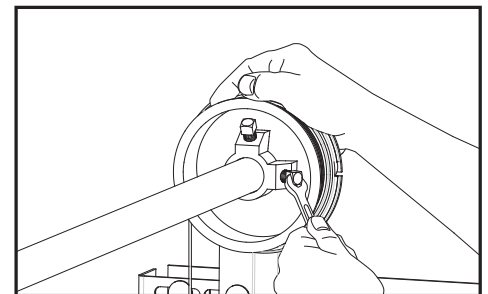

Fig. 5.1.3
- Once the cable is taut, slide the cable drum against the side bearing bracket and tighten the screws to the torsion bar. Fig 5.1.3.